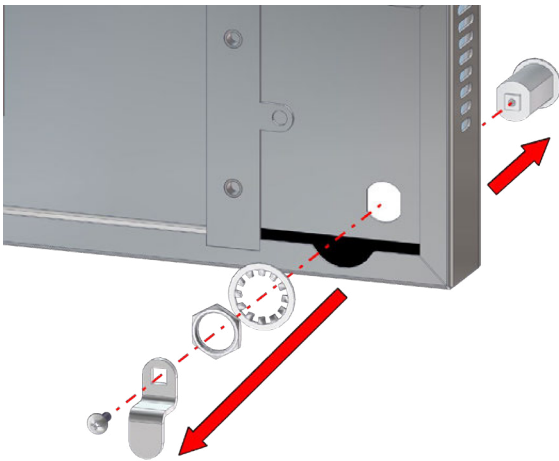

Fig. 39: Detach Cam Lock Assembly
7. To detach the Cam Lock assembly, unscrew the Phillips head screw from the Cam Lock Latch (Fig. 39).